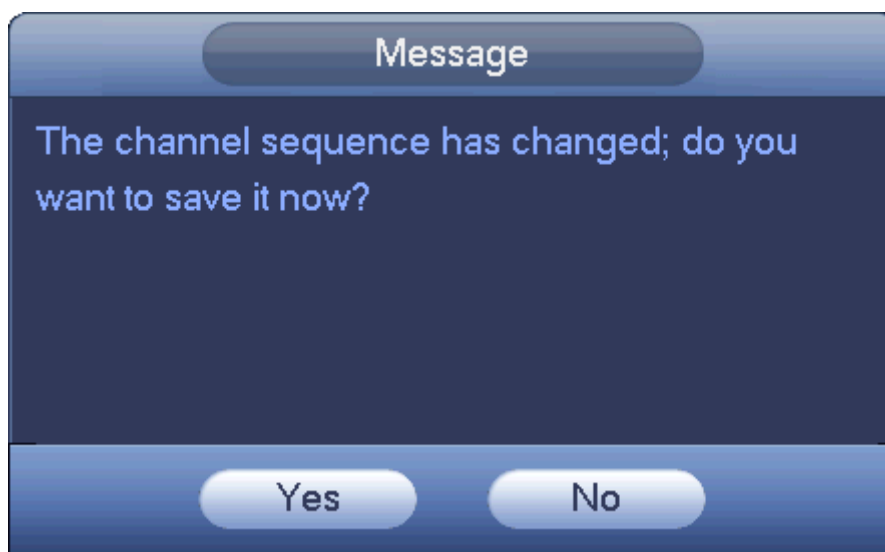

Figure 4-70
- After you change the channel sequence, click Cancel button or right click mouse, device pops up the dialogue box. See Figure 4-70.